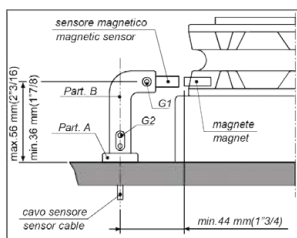

Fig. 1B
2. In the case of vertical shaft anchor windlasses (see Fig.1B), drill the hole in the lower circumference of the gipsy.